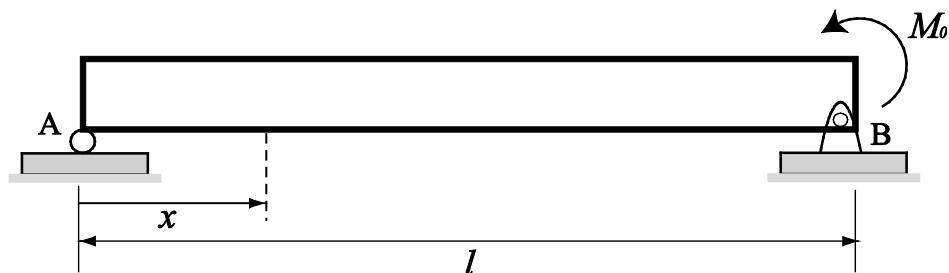

Figure Q3[a]
- Q3. [a]** Determine the equation of the elastic curve for the beam that is subjected to moment M as shown in the Figure Q3[a] using the x coordinate. Calculate the slope at A and the maximum deflection of the beam. EI is constant.